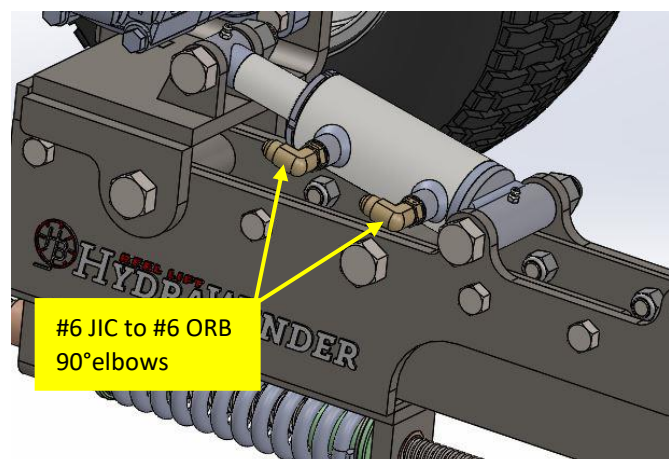

Figure 18
17. Thread both #6 JIC to #6 ORB 90° (**ITEM 11**) elbows into the ports on the side of the cylinder with their open ends facing rearward. Leave them loose to help line up the hydraulic hoses during the hose installation procedure. **Figure 18**